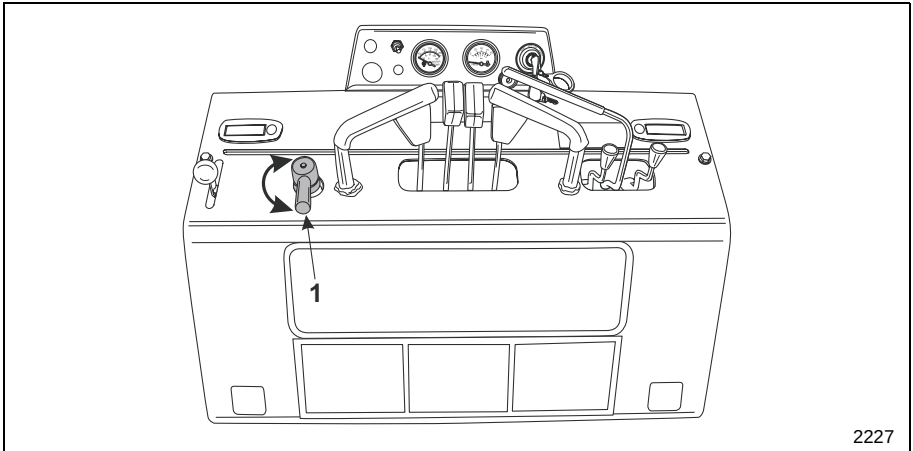

Figure 12 Crawl Speed Adjust Control
3. Rotate the CRAWL control lever (Item 1, **Figure 12**) to adjust the travel speed as needed.